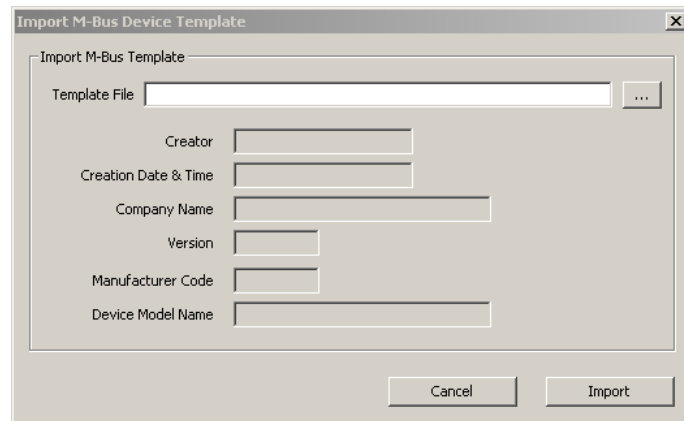

Figure 195: Import M-Bus Device dialog.
3. Click on the **Create From Template** button. This opens the **Import M-Bus Device Template** dialog shown in Figure 195.